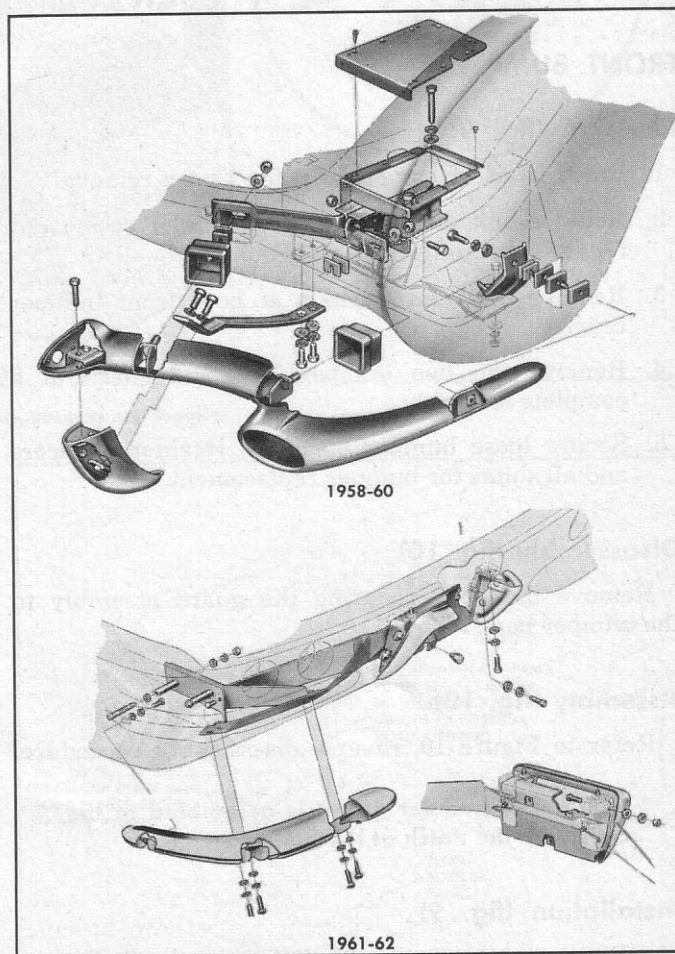

Fig. 12—Rear Bumpers
### Removal (fig. 12)
2. Remove mounting bolts from bumper bar and nut attachments from the back side of the bumpers (see Figure 12).
### Installation (fig. 12)